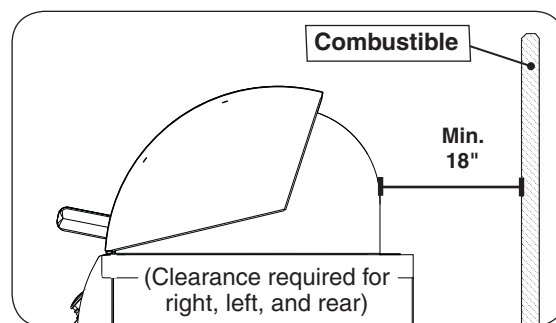

Fig. 11-4 Clearance 'C' Diagram
- The grill must have a minimum of 18" right, left, and rear clearance from any combustible wall (see Fig. 11-4).